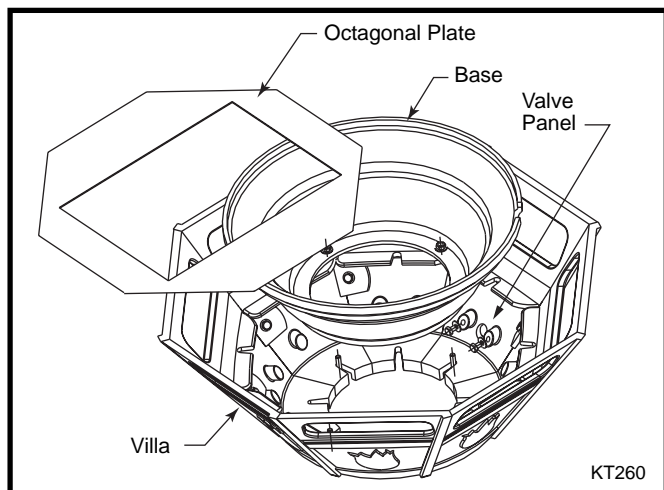

Fig. 4 Remove base/Villa from shipping container. Remove base from Villa.
2. Remove base/Villa from shipping carton. Remove four (4) 1/4-20 fasteners, four (4) nuts and eight (8) washers that fasten the base to the Villa. Remove base. Remove two (2) 1/4-20 x 1/2" fasteners, two (2) washers from cast valve panel. Set hardware aside. (Fig. 4)